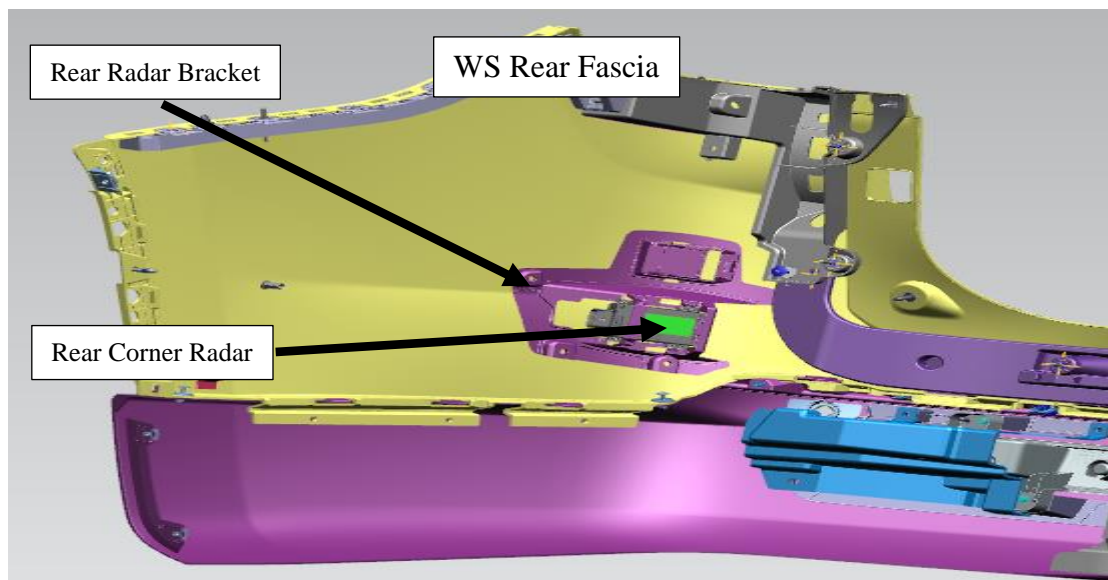

Fig 2
2. The bracket may be damaged (Figures 2, 3, 4, and 5).